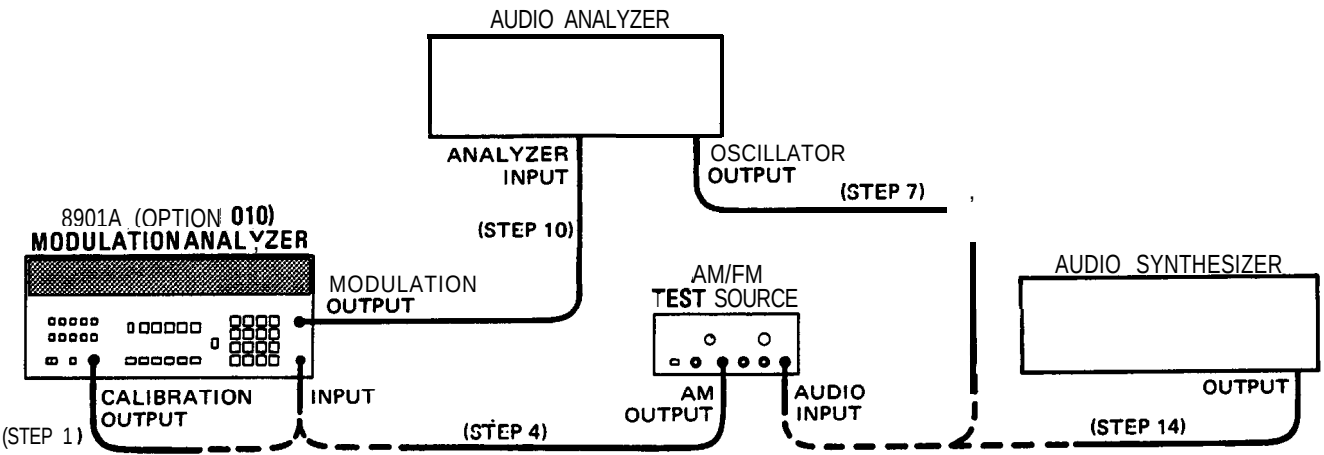

Figure 4-1. AM Performance Test Setup (for HP 8901A Equipped with Option 010)
- 4. On the AM/FM test source, set the test mode switch to AM. Connect the test source AM output to the Modulation Analyzer's INPUT. (See figure 4-1. Nothing should be connected to the test source's audio input.)
7. Set the audio analyzer's source to 20 **kHz**. Connect its output to the audio input of the **AM/FM** test source. (See figure 4-1.)
10. Connect the audio analyzer's input to the Modulation Analyzer's MODULATION OUTPUT. (See figure 4-1.) Set the audio analyzer to measure the distortion on the 20 **kHz** signal at the MODULATION OUTPUT with 80 **kHz** of low-pass filtering (on the audio analyzer). The distortion should be 0.3% or less (-50.5 **dB** or less).
14. Set the audio synthesizer to 1 **kHz** at +5 **dBm**. Connect its output to the audio input of the AM/FM test source. (See figure 4-1.) Fine adjust the audio synthesizer level for a Modulation Analyzer display of 80% AM.